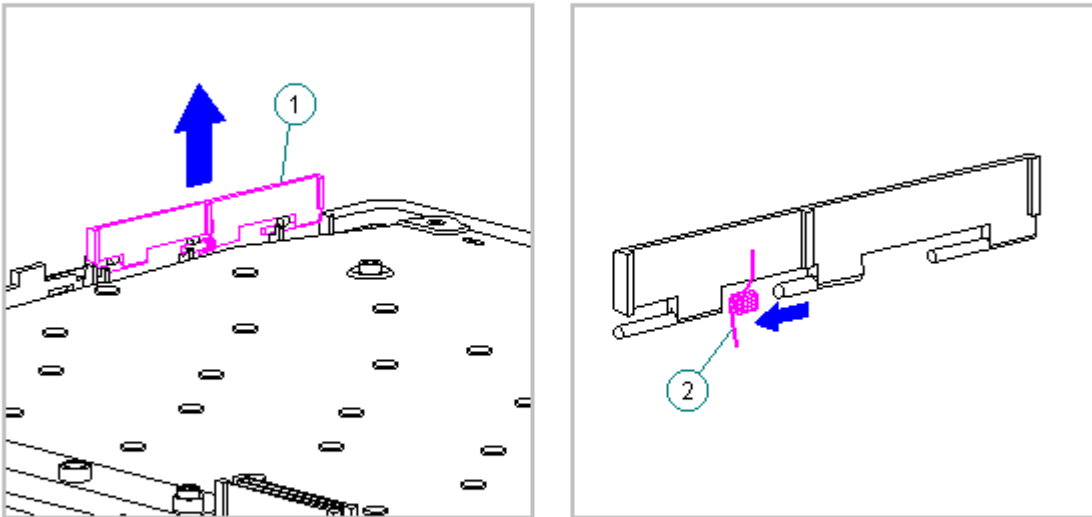

Figure 3-24. Removing the PC Card Door and Spring from the Keyboard Assembly (All Models)
3. Remove the PC Card door from the keyboard assembly, unsnap the PC Card door [1] from the posts, and remove the door (Figure 3-24).
4. Remove the spring [2] from the PC Card door (Figure 3-24).